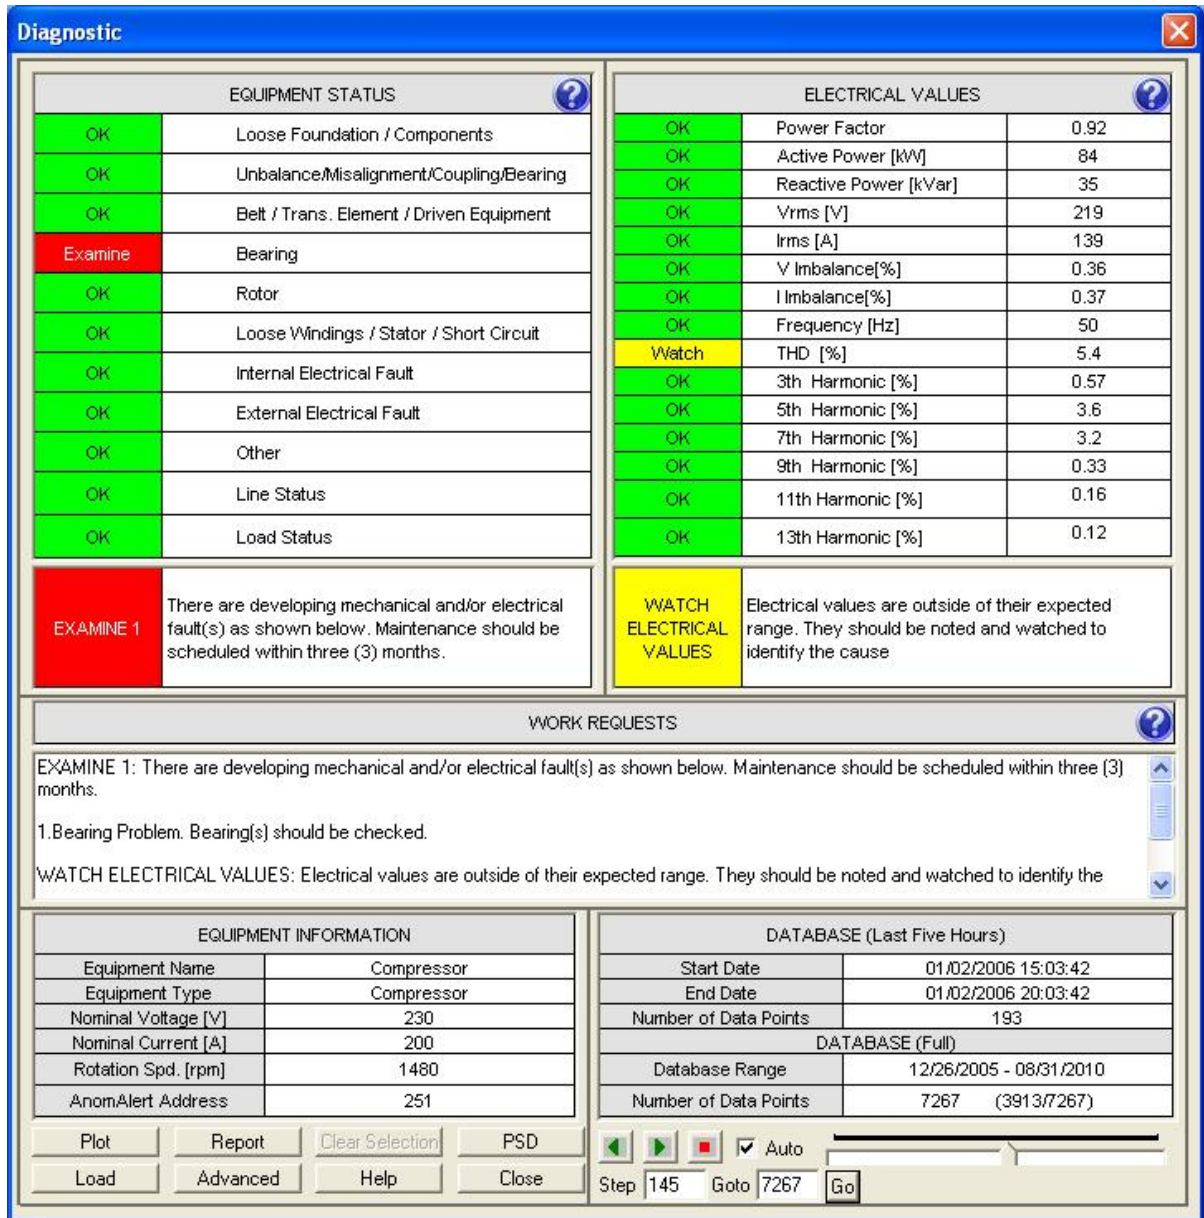

Figure 31: Diagnostic Window
Examine 1: There are developing mechanical and/or electrical fault(s) as shown in work request section of Figure 31. Maintenance should be scheduled within three (3) months.
Examine 2: There are developing mechanical and/or electrical fault(s) as shown in work request section of Figure 31. Maintenance and corrective action should be performed as soon as possible.
These signs are an indication of existing fault(s) within acceptable level(s) that are detected during learn mode. These faults should be checked for verification and corrective action at the next scheduled maintenance but no later than six (6) months. Please see the description of the fault in WORK REQUESTS section of Figure 31.
Advanced: Power Spectral Density (PSD) intervals shown in Figure 33 can be seen by pressing the advanced button shown in Figure 31. Each mechanical parameter's corresponding minimum and maximum frequency points in Hz are displayed in this window.